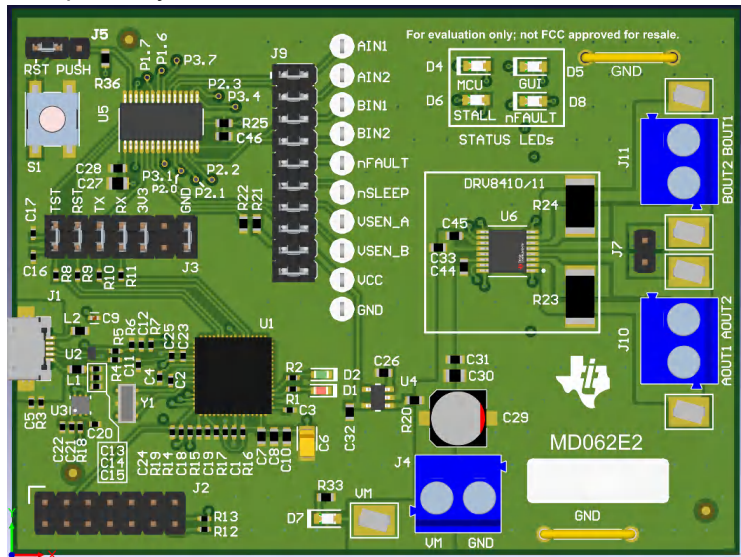
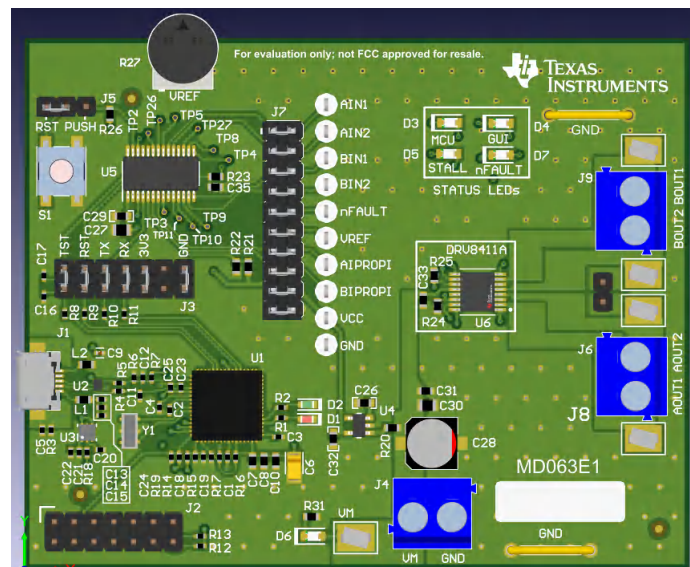

Figure 1-1. MD062 Board for DRV8410EVM and DRV8411EVM
Figure 1-2. MD063 Board for DRV8411AEVM
The DRV841xEVM is the evaluation module for the DRV8410, DRV8411, and DRV8411A family of low voltage dual h-bridge motor drivers capable of driving one stepper motor or two brushed DC motors. Please read the datasheet of each product to learn more about any of these drivers. There are a total of three EVMs which are DRV8410EVM, DRV8411EVM, and DRV8411AEVM. The DRV8410EVM and DRV8411EVM share the same hardware (MD062) but two different BOM variants. DRV8410EVM is MD062-001 and DRV8411EVM is MD062-002. The DRV8411AEVM is it's own board design (MD063) but shares many similarities with the MD062 board. In this user's manual, both of these boards will be discuss. Figure 1-1 and Figure 1-2 shows a 3D image of the MD062 and MD063 respectively.
1. The various headers have been populated with shunts on the default locations which are shown in Figure 1-1 and Figure 1-2. Confirm that the shunts are placed in the same location.